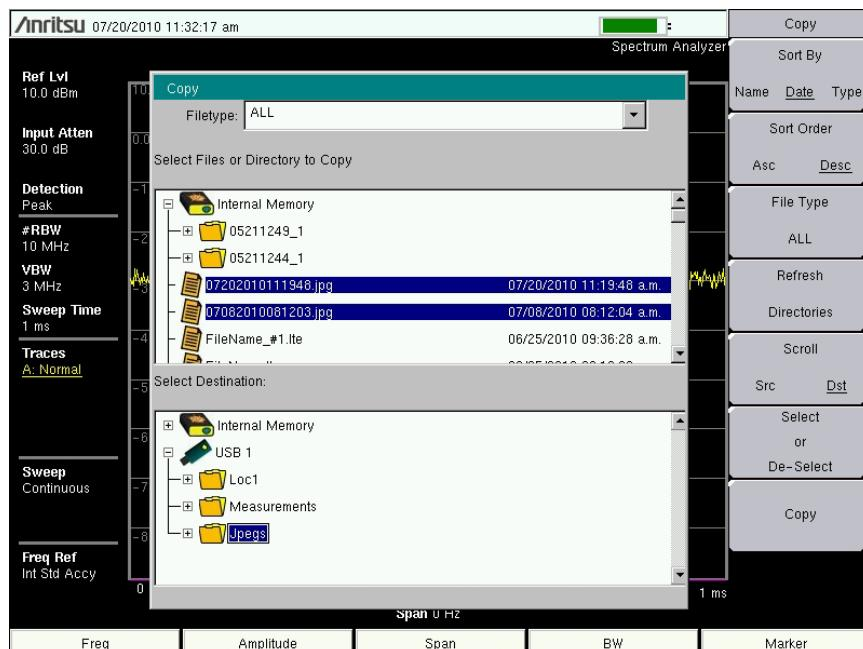

Figure 4-2. Two .jpg Files Ready to Copy from Internal Memory to the USB Drive, Jpeg Folder
The steps below detail copying a file from internal memory to an external flash drive. Select the files to copy in the top window and the location for the files to be copied to in the bottom window (Figure 4-2). Refer to the “Copy Menu” on page 4-12 for additional information.
3. Select the file(s) to copy. To select multiple files, highlight the first then press the **Select** or **De-Select** key to keep the file selected. The file will be outlined in blue (Figure 4-2). Repeat with all the files to copy.
This menu and dialog box is used to copy folders and files. Select folders or files with the **Up/Down** keys or the rotary knob. Figure 4-2 on page 4-3 shows the Copy dialog box with two Jpeg images selected and ready to be copied to the USB flash drive. Highlight a folder and press **Enter** or the **Right** arrow key to view the contents.
Scroll: Press this submenu key to use the scroll function in the Source Window (Scr - top panel) or Destination Window (Dst - bottom panel). See Figure 4-2.
Select or De-Select: Use this key to select or deselect the file(s) or folder(s) to be copied. When selected, a file or folder will be outlined in blue, see Figure 4-2.